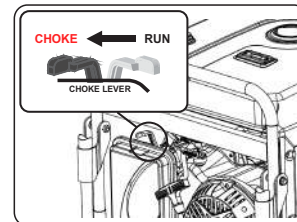

Fig 11
- Slide the choke lever to the "Choke" position. (See fig 11) **SKIP THIS IF THE ENGINE IS WARM OR HOT.**